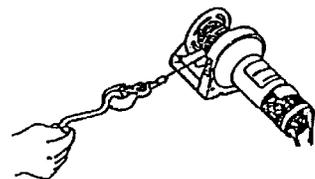

Figure 3
6. NEVER WINCH WITH LESS THAN 5 TURNS of wire rope AROUND THE WINCH DRUM since the wire rope end fastener will NOT withstand a load. ALWAYS USE THE HANDSAVER when guiding the wire rope in or out (see Figure 3).